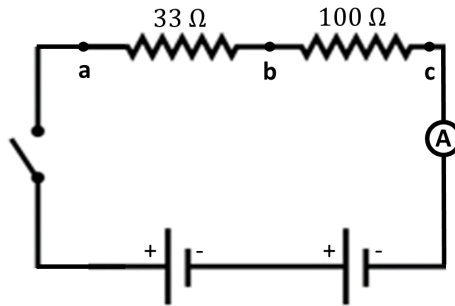

Figure 6.9: Circuit diagram with two resistors in series.
1. Create the circuit shown in Fig.6.9 using two resistor modules, two batteries, a switch, the current module (CM) and any necessary wire modules.
2. Record the current through the circuit. Relocate the CM between the two resistors and note the current. Is the current the same? What if you switch the location of the CM and switch shown in Fig. 6.9? Is the current measured still the same? Explain.
3. Measure the potential difference across points ab ($\Delta V_{ab} \equiv V_a - V_b$), bc (ΔV_{bc}) and ac (ΔV_{ac}) using the voltage sensor (VS).
2. In the circuit shown in Fig.6.9, you measured the potential difference across each resistor, ΔV_{ab} and ΔV_{bc} . Is the sum of these equal to the emf (i.e., “voltage”) of the battery?